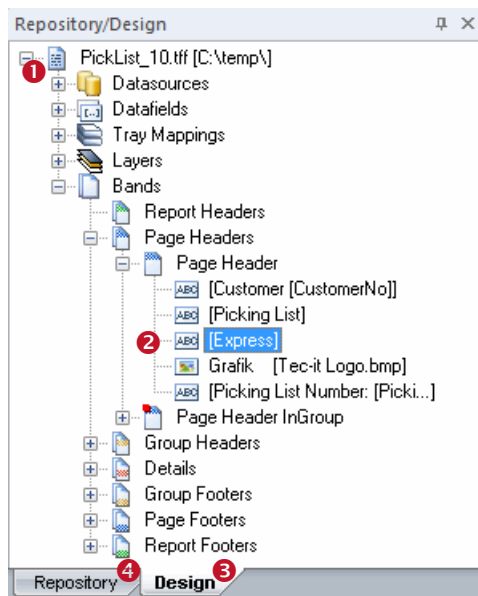

Figure 7: Design Tree Window
To select an object, click on it with the left mouse button. Hold down the *Shift* key or the *Ctrl* key for multiple selection. Figure 7 shows a selected text element (❷), which is located in the page header of a layout called "PickList_10.tff".